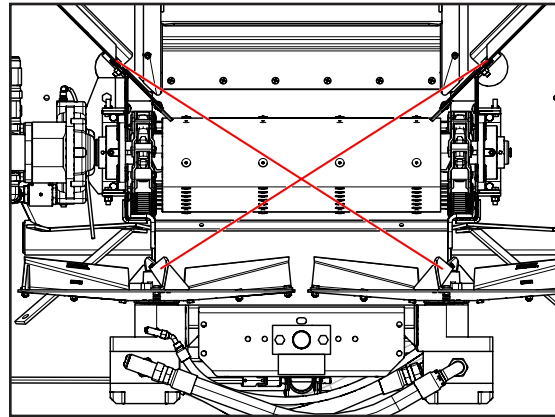

Figure 3A
- Figure 3A - 3B - Check Spinner Assembly squareness by measuring from top edge of left hand Sill to inner hex flat on right hand Spinner Hub bolt. Repeat for opposite side.